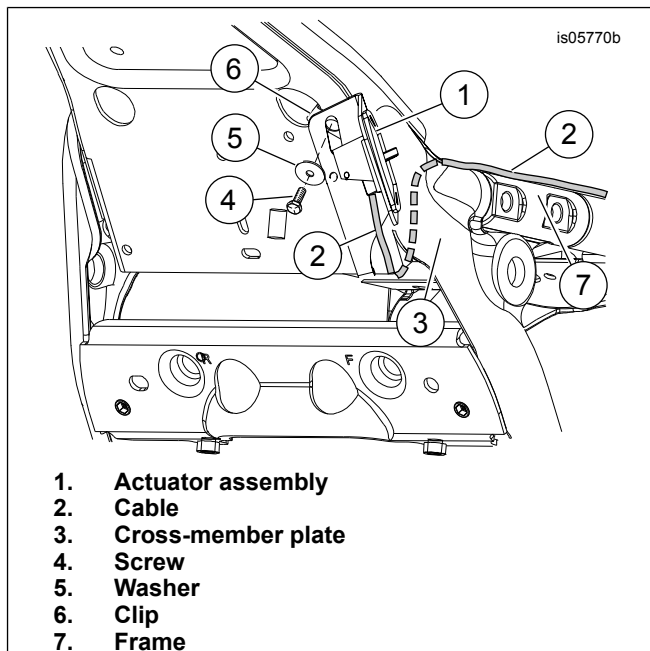

Figure 8. Install Actuator Assembly
10. Secure with screws (9) and nuts (11).
11. **Models without Mid-Frame Air Deflector:** See Figure 8.
a. Slide the flat side of the actuator assembly (1) behind the spark plug wires.
c. Secure with screw (4) and washer (5). Tighten.